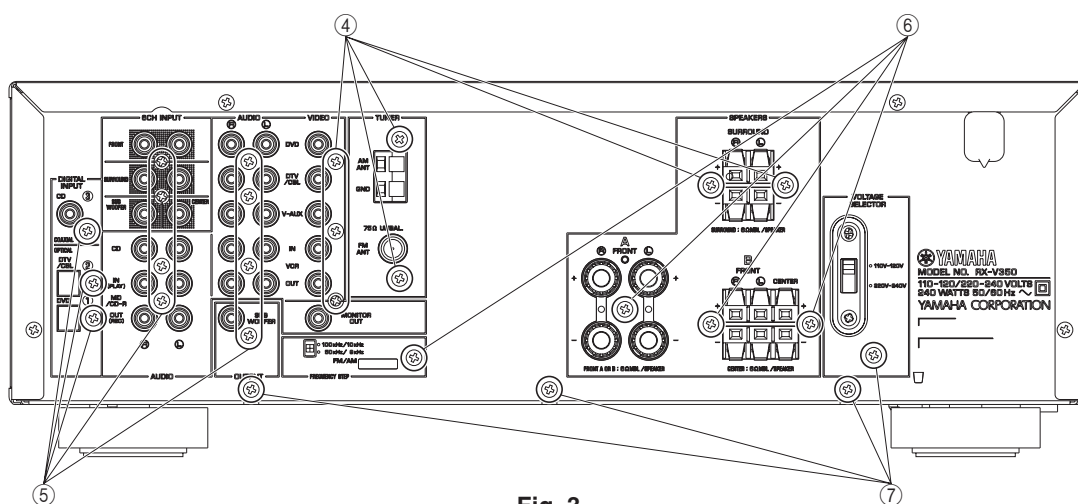

Fig. 3
- b. Remove 7 screws (④). (Fig. 3)
- d. Remove 11 screws (⑤). (Fig. 3)
- e. Remove 4 screws (⑥). (Fig. 3)
- f. Remove 4 screws (⑦). (Fig. 3)
- Remove 4 screws (7). (Fig. 3)